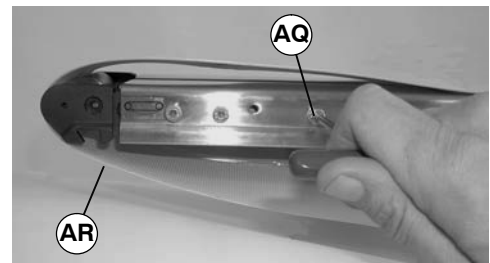

Figure 23
8. Remove conveyor belt (AR of Figure 23) from both ends of conveyor.